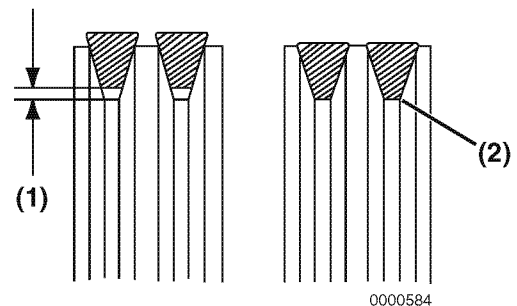

Figure 5-5
4. Inspect the condition of the used V-belt. There must be clearance (**Figure 5-5, (1)**) between the V-belt and the bottom of the pulley groove. If there is no clearance (**Figure 5-5, (2)**) between the V-belt and the bottom of the pulley groove, replace the V-belt.